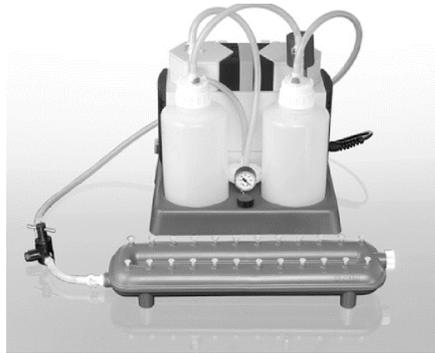

Figure 1. QIAvac 24 Plus, QIAvac Connecting System, and Vacuum Pump
QIAamp Mini columns are processed on the QIAvac 24 Plus using disposable VacConnectors and reusable VacValves. VacValves (optional) are inserted directly into the luer slots of the QIAvac 24 Plus manifold and ensure a steady flow rate, facilitating parallel processing of different sample volumes. They should be used if sample flow rates differ significantly in order to ensure consistent vacuum. VacConnectors are disposable connectors that fit between QIAamp Mini columns and VacValves or between the QIAamp Mini columns and the luer slots of the QIAvac 24 Plus. They prevent direct contact between the spin column and VacValve during purification, thereby avoiding any cross-contamination between samples. VacConnectors are discarded after a single use. Due to the large solution volumes used, the QIAvac Connecting System (or a similar setup with waste bottles) is required (see Figure 1).
- The vacuum pressure is the differential pressure between the inside of the vacuum manifold and the atmosphere (standard atmospheric pressure 1013 millibar or 760 mm Hg) and can be measured using the QIAvac Connecting System (see Figure 1). The protocols require a vacuum pump capable of producing a vacuum of –800 to –900 mbar (e.g., QIAGEN Vacuum Pump). Higher vacuum pressures must be avoided. Use of vacuum pressures lower than recommended may reduce nucleic acid yield and purity and increase the risk of clogged membranes.